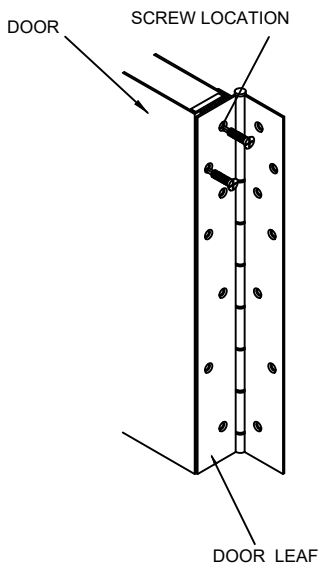

FIG. 4
1. Attach Hinge to Door (FIG. 4):